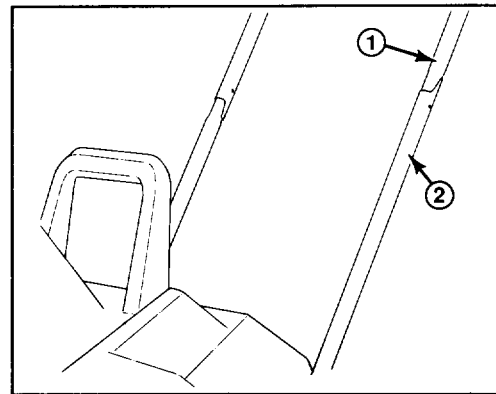

Figure 1
2. Carefully insert upper tubing into lower tubing until mounting holes are aligned (Fig. 1).